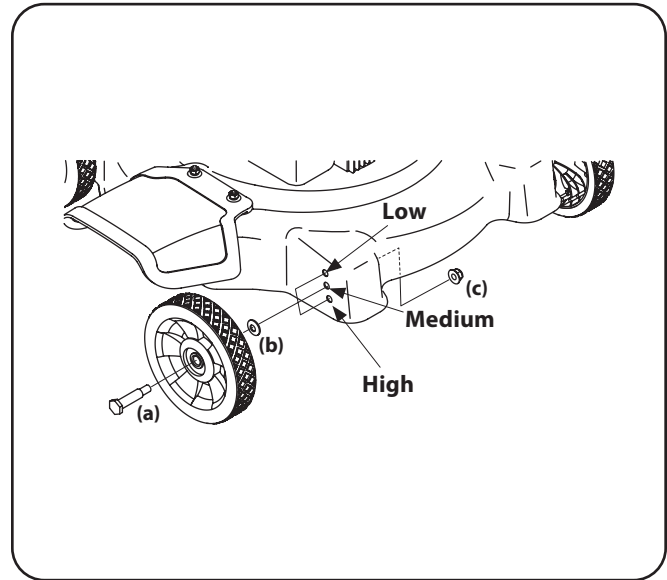

Figure 3-6
1. Remove the shoulder screws (a), washers (b) (front wheels only), and nuts (c) from the wheels. See Figure 3-6.